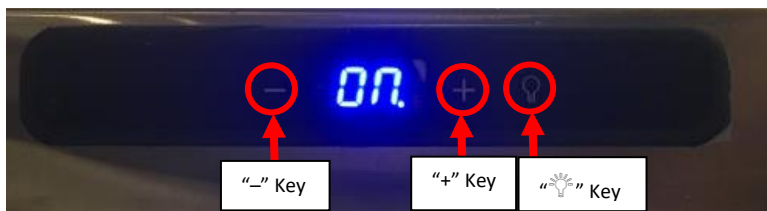

Figure 53: Fridge Display Controls.
- a. Press the "+" or "-" key, the display board will flash the current set point. **See Figure 53.** Press the "+" key to increase the temp and "-" key to decrease the temp. Range will be 34°F to 60°F. The display will blink while setting the temperature. After 5 seconds display will show "ON". **See Figure 53.**